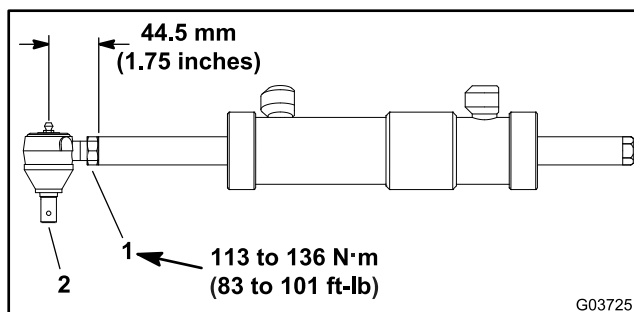

Figure 257
5. Ensure that the steering cylinder rod ends (both front and rear) are properly installed. The distance from the end of the cylinder shaft to the center of the rod end grease fitting should be 44.5 mm (1.750 inches). If necessary, loosen the rod end jam nut (item 1 in Figure 257) and adjust the location of the rod end. After adjustment, torque the jam nut to **113 to 136 N·m (83 to 101 ft-lb)**.